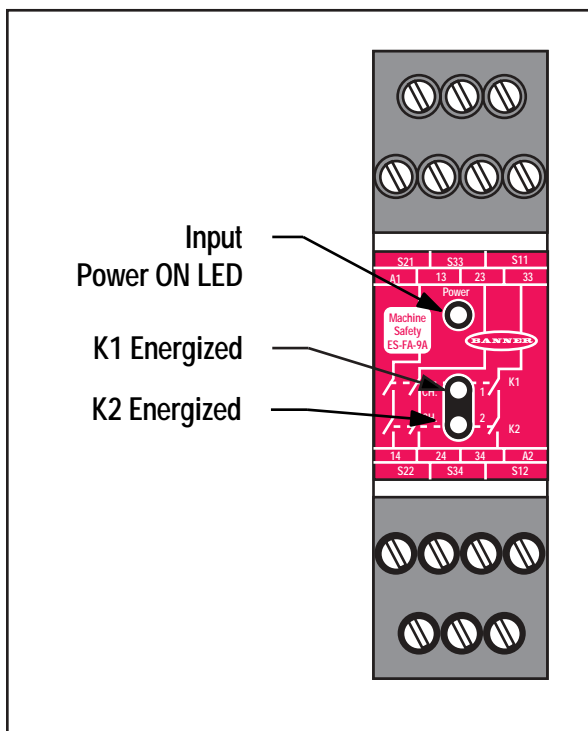
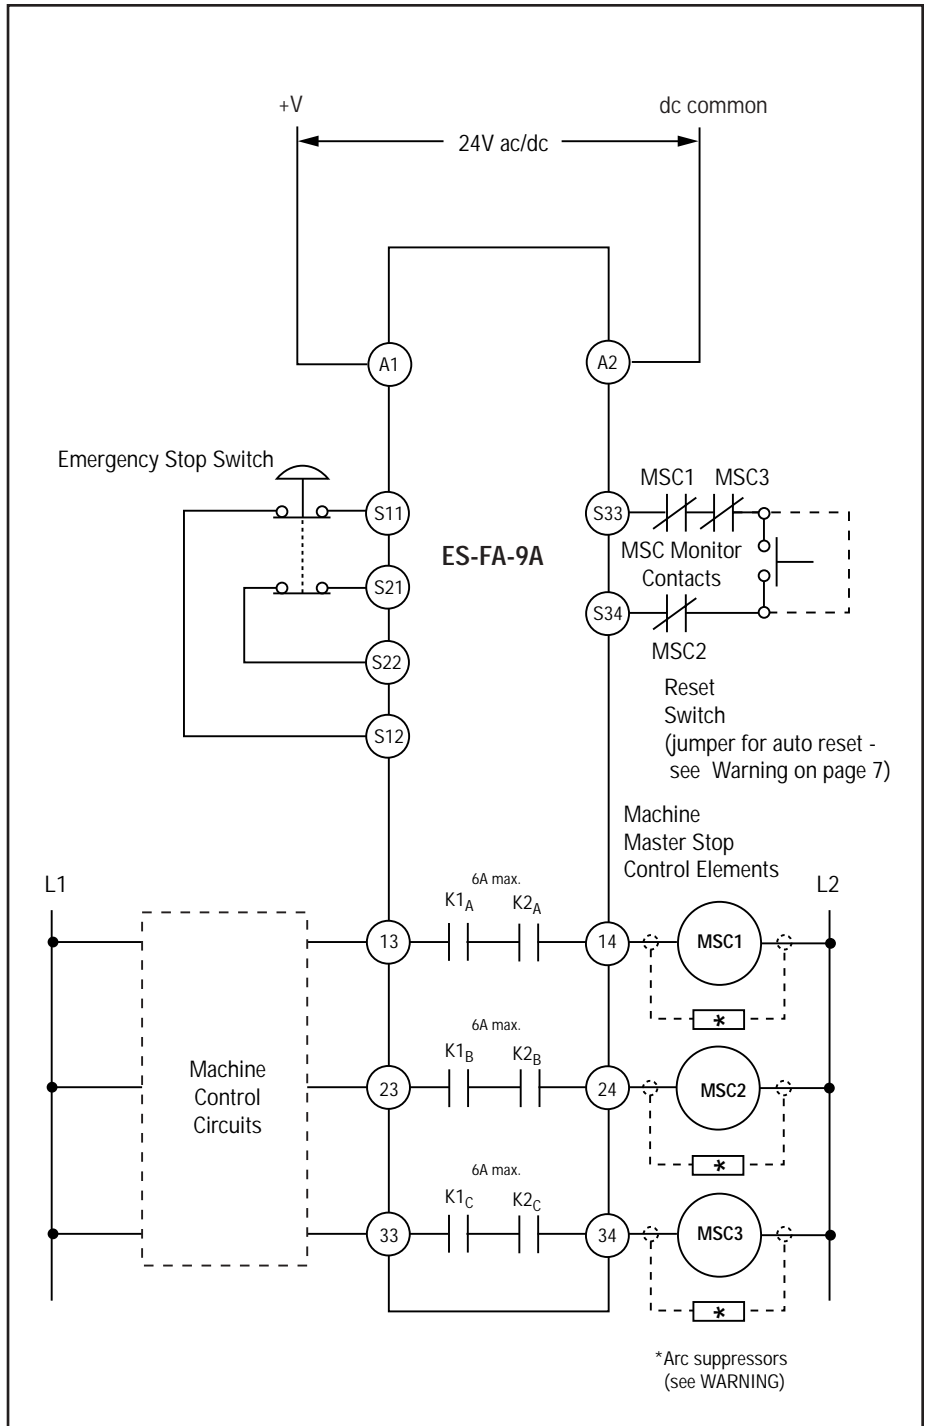
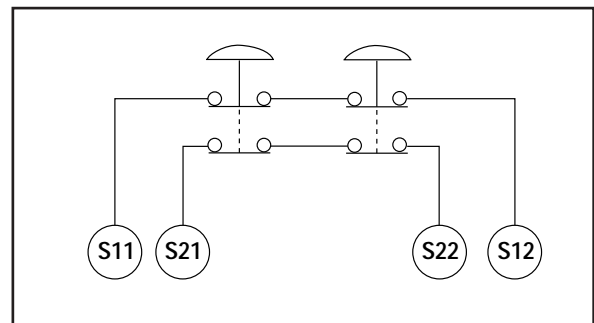
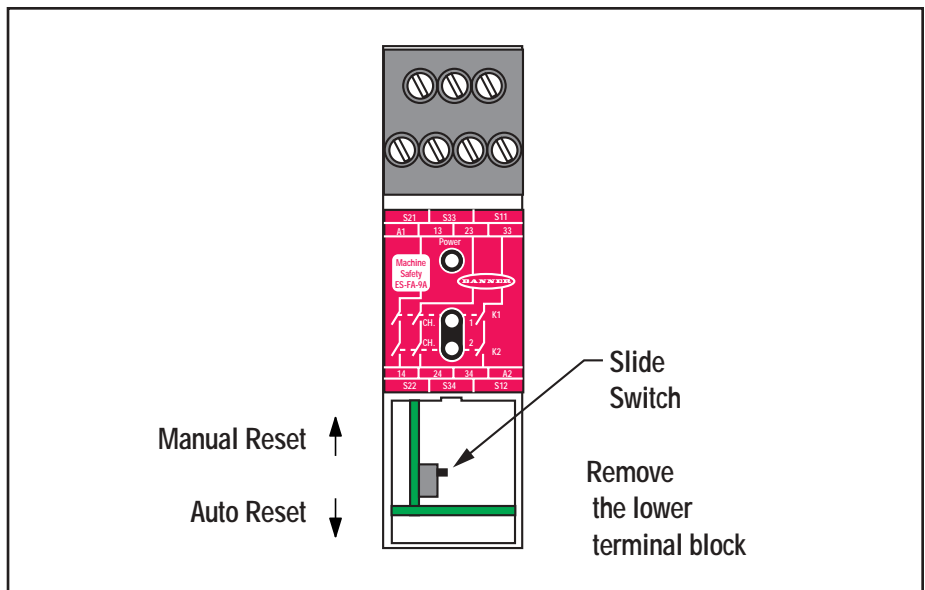

Figure 1. ES-FA-9A status indicators
Figure 2. Hookup of ES-FA-9A E-Stop Safety Module
Figure 3. Series connection of multiple E-stop switches
Figure 5. Selector switch for auto or manual reset
As indicated in Figures 3, 4, and 5, the model ES-FA-9A E-Stop Safety Module is designed for use with a 2-channel E-stop switch. A 2-channel E-stop switch has two contacts.
As shown in Figure 2, the E-stop switch becomes an input to the E-Stop Safety Module. The Safety Module monitors the condition of both contacts of the E-stop switch.
The output of the E-Stop Safety Module consists of three redundant output switching channels, each of which is the series connection of two forced-guided relay contacts (K1 and K2 in Figure 2). The three switching output circuits of the E-stop Safety Module are rated for up to 250V ac at up to 6 amps.
The E-stop Safety Module also provides a necessary reset function. ANSI B11 and NFPA 79 standards require that a reset routine be performed after returning the E-stop switch to its closed-contact position. This prevents the controlled machinery from restarting by simply closing the E-stop switch. Model ES-FA-9A may be configured for automatic reset via a two-position slide switch, located inside, under the lower plug-in wiring barrier (see Figure 5). **The automatic reset mode is useful for some automated processes. However, when automatic reset is used, an alternate means must be established to require a reset routine after the E-stop switch is returned to its closed contact position (see WARNING on page 7).**
The Safety Module has indicators for input power and output relay contact status (K1 and K2); see Figure 1. There are no adjustments and no user-serviceable parts. See page 9 for information regarding repair service.
As shown in Figure 3 or 4, the E-stop switch must provide two contacts which are closed when the switch is in the “armed” position. Once activated, the E-stop switch must open both contacts. The switch may be returned to the closed-contact position only by a deliberate action (such as twisting, pulling, or unlocking). Additionally, NFPA 79 section 13.2, Emergency Stop Devices, specifies the following switch (“stop control”) requirements:
Connect the poles of the E-stop switches as shown in Figure 2. The switches in Figure 2 are shown in the “armed” position with both contacts closed. Multiple E-stop switches connected to one E-stop Safety Module must be series connected (see Figure 3 and the warning on page 7).
The hookup diagram (Figure 2) shows a generic connection of the E-stop Safety Module’s three redundant output circuits to Master Stop Control Elements MSC1 through MSC3. A Master Stop Control Element is defined as an electrically powered device, external to the E-stop Safety Module, which stops the machinery being controlled by immediately removing electrical power to the machine and (when necessary) by applying braking to dangerous motion (reference ANSI B11.19, section 5.2: “Stop Control”). This stopping action is accomplished by removing power to the actuator coil of either Master Stop Control Element.
To satisfy the requirements of Safety Category 4 of prEN 954-1, the Master Stop Control Elements must each offer a normally closed, forced-guided monitor contact. One normally closed monitor contact from each Master Stop Control Element is wired in series to the S33-S34 feedback/reset input (see Figure 2). In operation, if one of the switching contacts of either master stop control element fails in the shorted condition, the associated monitor contact will remain open. Therefore, it will not be possible to reset the E-stop Safety Module.
The Reset Circuit switch can be any mechanical switch such as a normally open momentary switch, or a two-position key switch. The Reset switch must be capable of reliably switching 12 to 18V dc at 40 to 100 milliamps. As shown in Figure 2, the Reset switch connects between terminals S33 and S34 of the Safety Module.
Model ES-FA-9A may be configured for automatic reset via a two-position slide switch, located inside, under the lower plug-in terminal block (see Figure 5) and by replacing the Reset switch with a jumper wire in the S33-S34 feedback/reset input circuit (see Figure 2). The E-stop Safety Module will reset (and the outputs energize) as soon as the E-stop switch returns to its closed-contact position.
- 3) Apply power to the E-Stop Safety Module at terminals A1 and A2 (see Figure 2). Verify that only the **Input Power** indicator (Figure 1) is ON. If either of the other two indicators is ON at this point, disconnect the input power and check all wiring. Return to step 2 after the cause of the problem has been corrected.